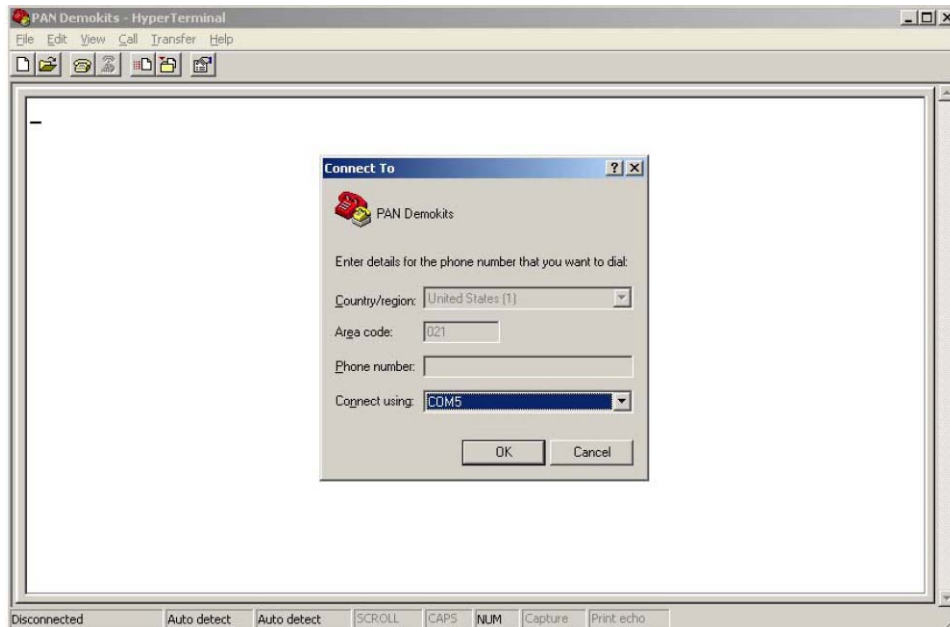

Figure 5
- 3.) Select the corresponding serial port the serial cable is connected on the PC to the Vesta board, then press "OK" to continue. Your COM choice maybe different from what is illustrated in Figure 5.